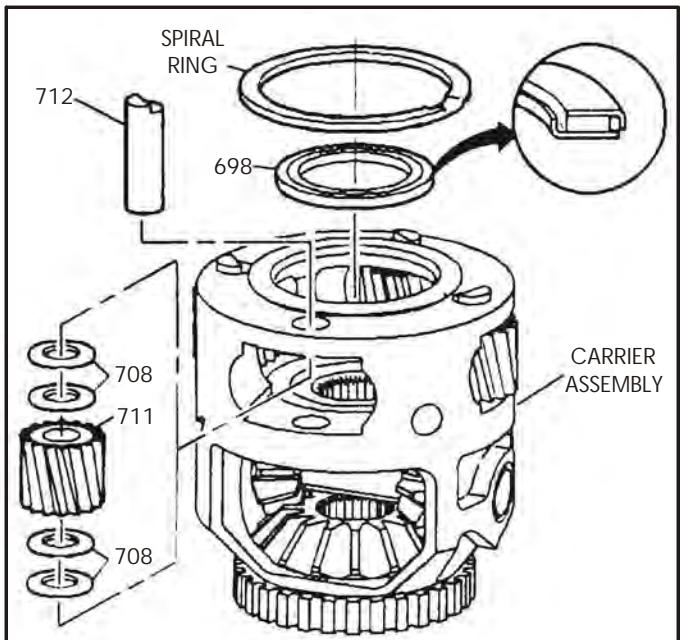

Figure 87
11. Install the differential carrier sun gear thrust bearing (698) into the carrier (See Figure 87). **Note:** Some ratio final drive carriers, this is a **trapped** bearing and **must** be installed **before** installing the pinion gears.
13. Install two pinion gear washers (708) on each side of the pinion gear (711) and retain with "Trans-Jel" (See Figure 87).
14. Install the pinion gear assemblies into final drive carrier housing (See Figure 87).
15. Install each planetary pinion gear pins (712).
16. Install the spiral snap ring (See Figure 87).